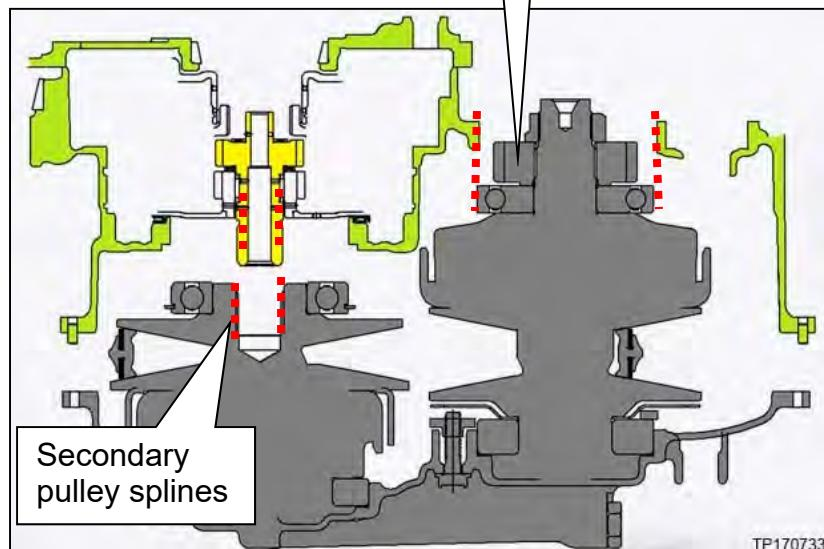

Figure 154
- HINT:** This will allow the splines of the secondary pulley and the planetary carrier plate to align. See Figure 154.